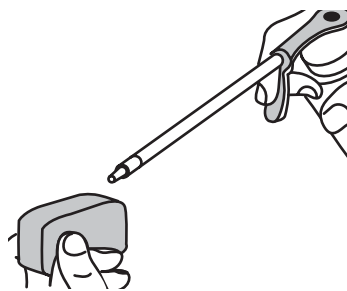

Fig. 47
4. Apply enough clean SAE 30 motor oil to lightly coat the filter (Fig. 47).